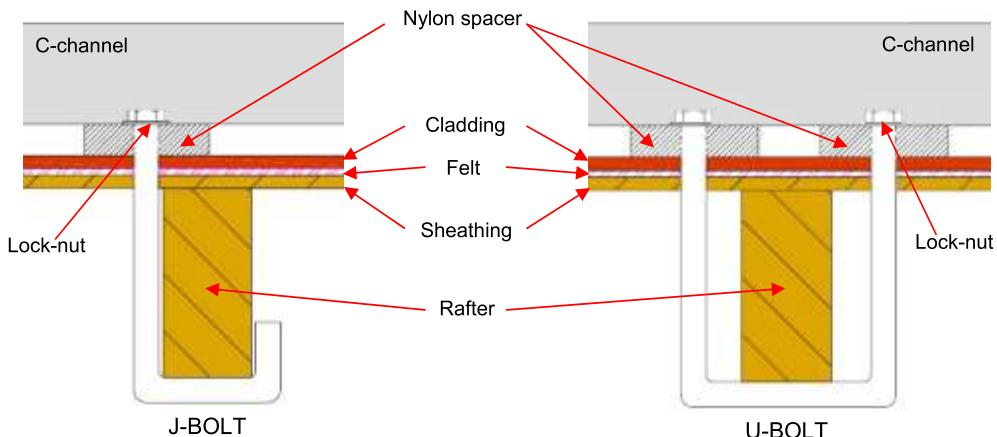

Fig. 5.2.2 – C-channel secured to rafter with J-bolts and U-bolts.
- Holes can be drilled immediately next to rafters and J-bolts or U-bolts (Ø3/8") and locknuts used to secure C-channel to rafters (Fig. 5.2.2).